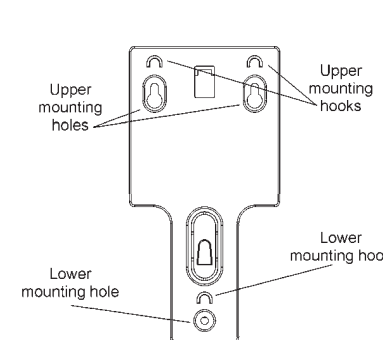

Figure 3
2. Attach the mounting bracket to the wall using the supplied screws. (See figure 3)
2. Fixez le support de montage au mur en utilisant les vis fournies. (Voir figure 3)